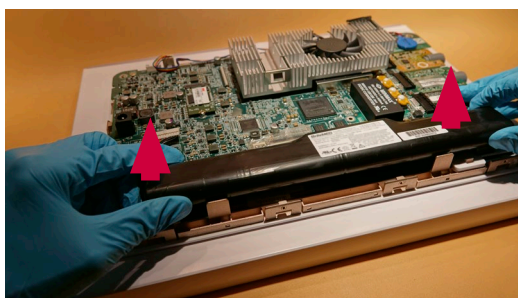

Figure 14 Remove the battery
a) Pull the battery off the displaying unit main board (Figure 14)